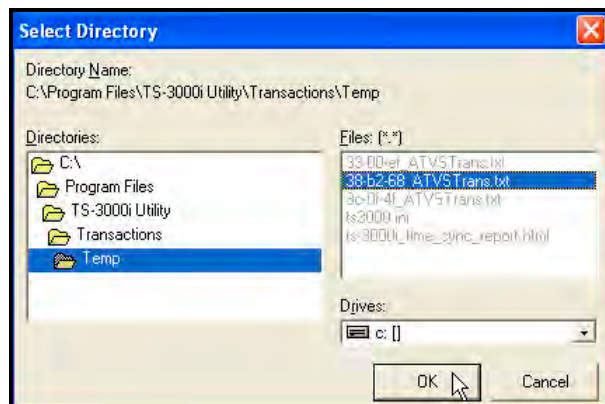

Figure 5-9. Select Report Directory.
- Step 6. You should see the files you want to use in the “Files *.*” listing on the Select Directory screen (see *Figure 5-9*). Click the **OK** button to close the Select Directory screen. The default location path will be: C:\Program Files\TS-3000i Utility\Transactions\Temp.